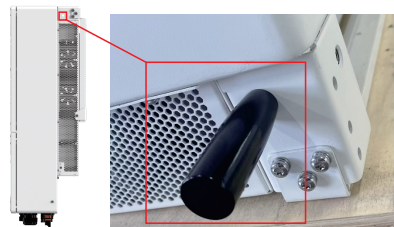

Figure 3.4
4. There are two black mounting handrails on the machine, they are removable and convenient for installation (see Figure 3.4).
5. The position of handrails installation as the red mark in figure 3.4.